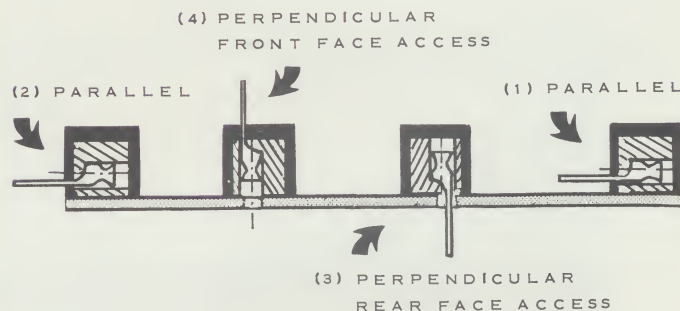

FIG. 2
VECTORCONNS may be mounted on a flat surface with socket openings and tabs faced in any direction relative to the mounting plane. For clarification the various positions (Figure 2) are designated as: (1) & (2) parallel mounting; (4) perpendicular mounting - front face access; (3) perpendicular mounting - rear face access. In the case of position (3) it is necessary to provide slots or holes to permit the tabs to pass through the board or panel. In the case of position (4) it is necessary to provide holes (1/8") to permit access to the receptacle contacts through the board or panel. The terms front or rear face access refer to the relative position of the contact openings.